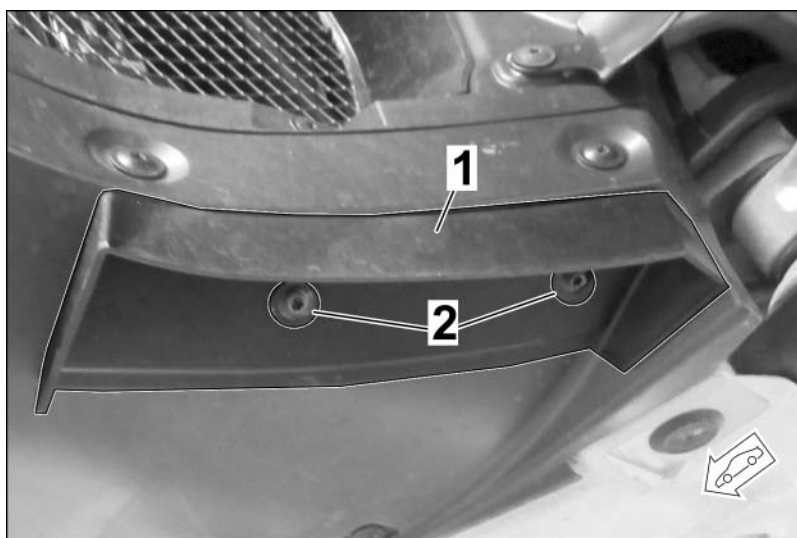

Figure 33
- 5.1.3 Remove the aero insert on the front wheelhouse liner (left/right) (⇒ *Figure 33*).